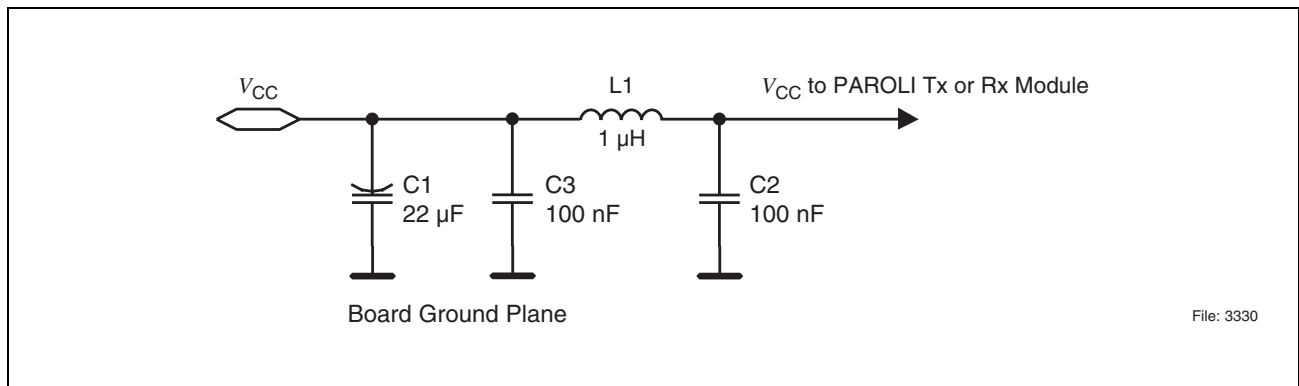

Figure 9 Filtering Scheme
- ²⁾ Noise frequency is 1 kHz to f_{\max} , where f_{\max} is equal to the maximum data rate in units of MHz. E.g. for a maximum data rate of 2700 Mbit/s, $f_{\max} = 2700$ MHz. Power supply noise is defined with the recommended filter in place at the supply side of the filtering circuit (see **Figure 9** on **Page 17**).
A power supply filtering is recommended for the transmitter and the receiver module. A possible filtering scheme is shown in **Figure 9**. The module signal and chassis ground refer to a common ground plane, which can be contacted to the PCB ground by the mounting screws (see **Figure 17 “PCB Layout” on Page 28**).